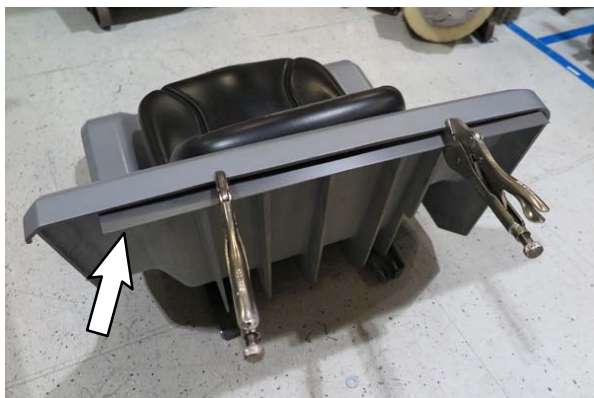

FIG. 4
7. Clamp the template (23) under the top lip of the seat shroud. (Fig. 4)